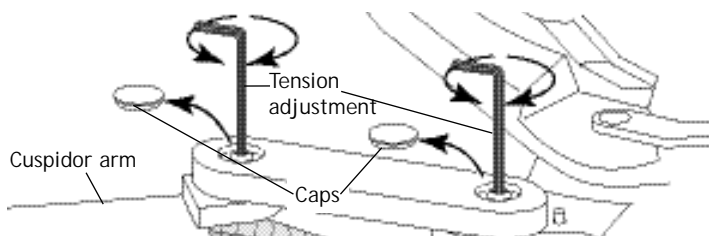

Figure 21
- Adjust the tension of the cuspidor arm to the desired resistance (see Figure 21). The cuspidor arm should rotate easily but not drift. Install caps over the screws after the tension has been adjusted.